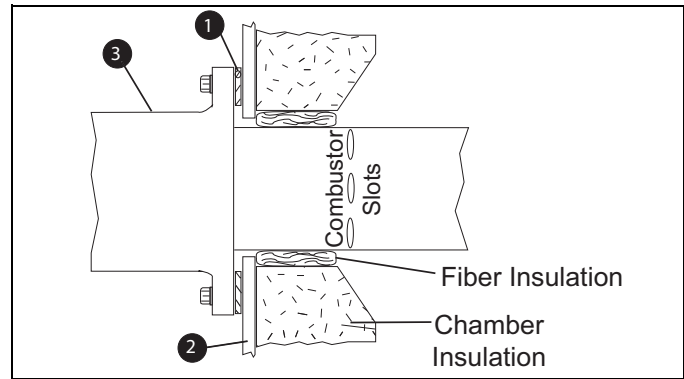

Figure 3.4. Alloy Combustion Tube
1. Be sure gasket ① is installed between burner ③ and chamber wall ②. See Figure 3.4.
2. Pack fiber insulation around the tube to a depth not beyond the combustor slot position, as shown in Figure 3.4.